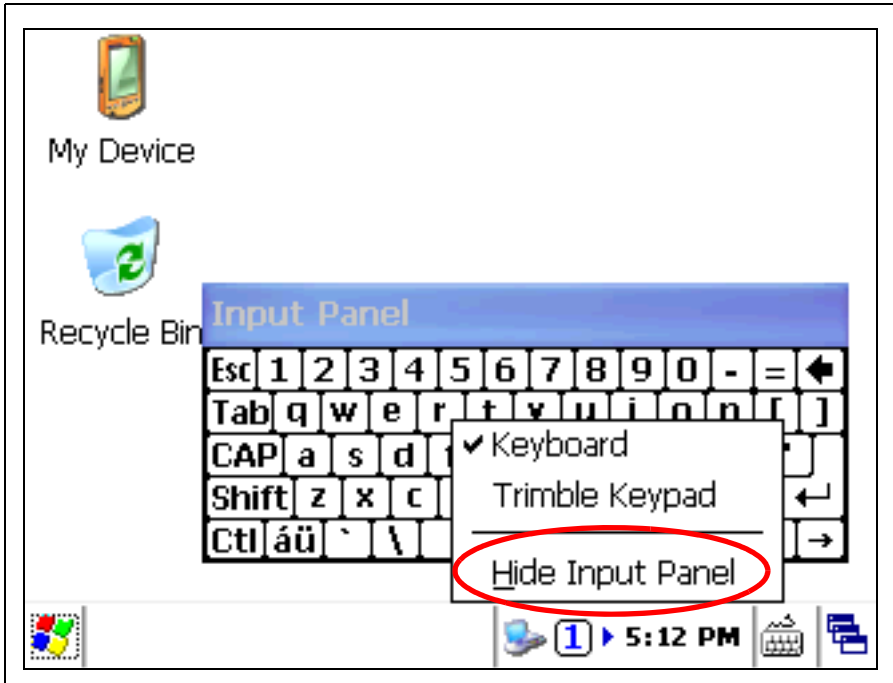

Figure 3.9 Hide input panel
2. Tap once on Hide Input Panel. See figure 3.9